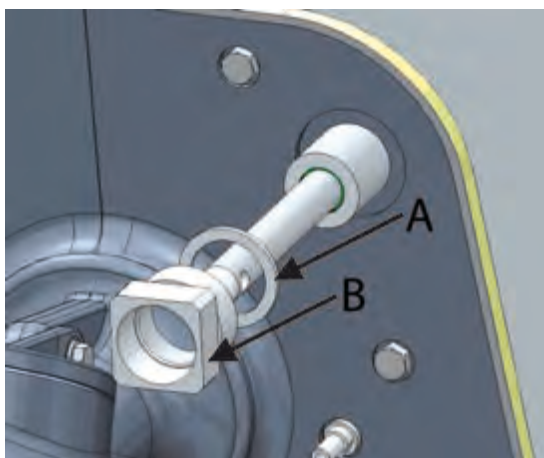

Figure 29. Hydraulic cylinder spacer and nut
4. Push the cylinder through the hole, insert the spacer (figure 29, point A) into its place, and tighten the screw (figure 29, point B).